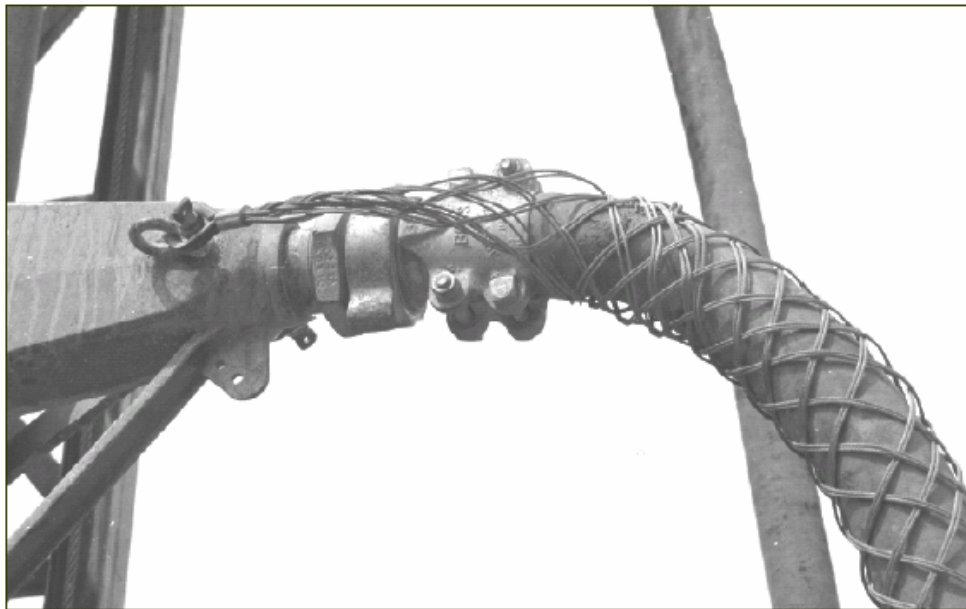

Figure 1. Cable Stocking whipchecks are recommended on both ends of high pressure air line hoses.
- ❖ **Always ensure that whipchecks are attached to each end of high pressure hoses.** Stocking type whipchecks are recommended because they provide the best protection against the dangers of a whipping hose (see Figure 1). Two (2) stocking type whipchecks – one at each end of the hose are recommended for restraining high pressure air hoses. Contractors must carry out regular safety checks on all air hoses, sample hoses, hose couplings and hose restraining devices (whipchecks).